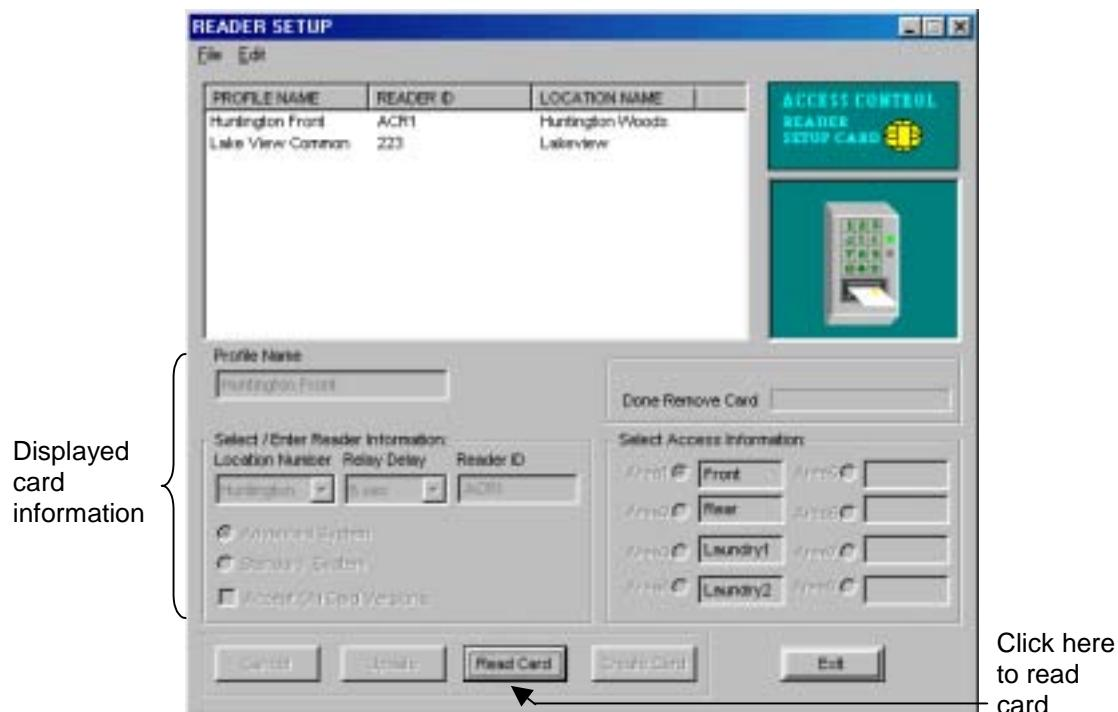

Figure 11.41 Reading an Existing Reader Setup Card
2. In the Reader Setup window click the Read Card button (Figure 11.41).
3. The card information will be displayed in the main body of the window (Figure 11.41).